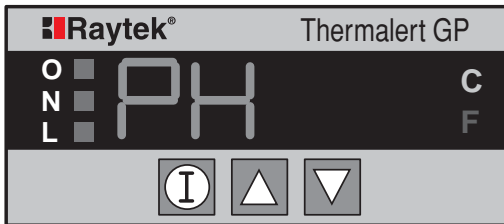

Figure 15: Peak Hold Display
1. Press and hold the  button and press the  button and release them both. The Peak Hold display appears (Figure 15).
- Press and hold the ▼ button, and press the ⓘ button, then release them both. The Peak Hold display appears (as shown in Figure 15).
- Press the  button and the  button simultaneously then release. The Peak Hold display appears (as shown in Figure 15).
1. Press and hold the  button, and press the  button, then release them both. The Peak Hold display appears (as shown in Figure 15).